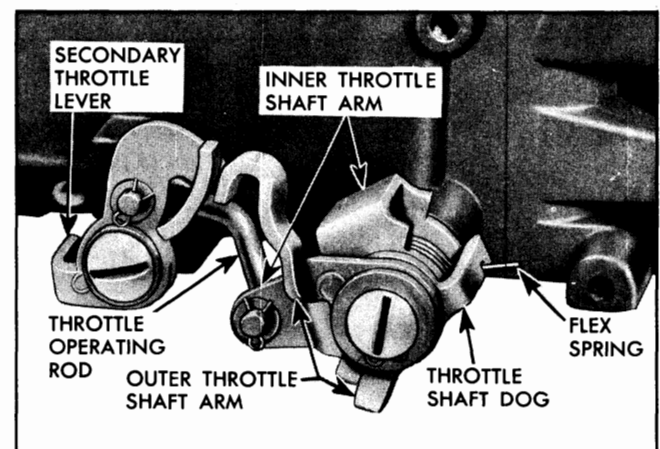

Fig. 6B-79 Primary and Secondary Throttle Linkage
2. Blow out all passages (Figs. 6B-80, 81, 82, 83, and 85) in casting with compressed air and blow off all parts to ensure they are free of cleaner.